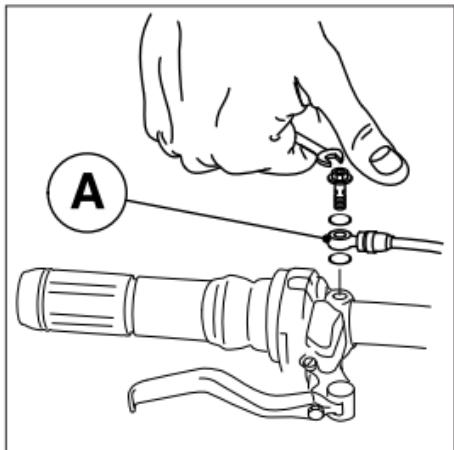

Fig. 13
-Detach connector A (fig 13) from its pump and invert both hoses. Reassemble by proceeding as in 2.3.